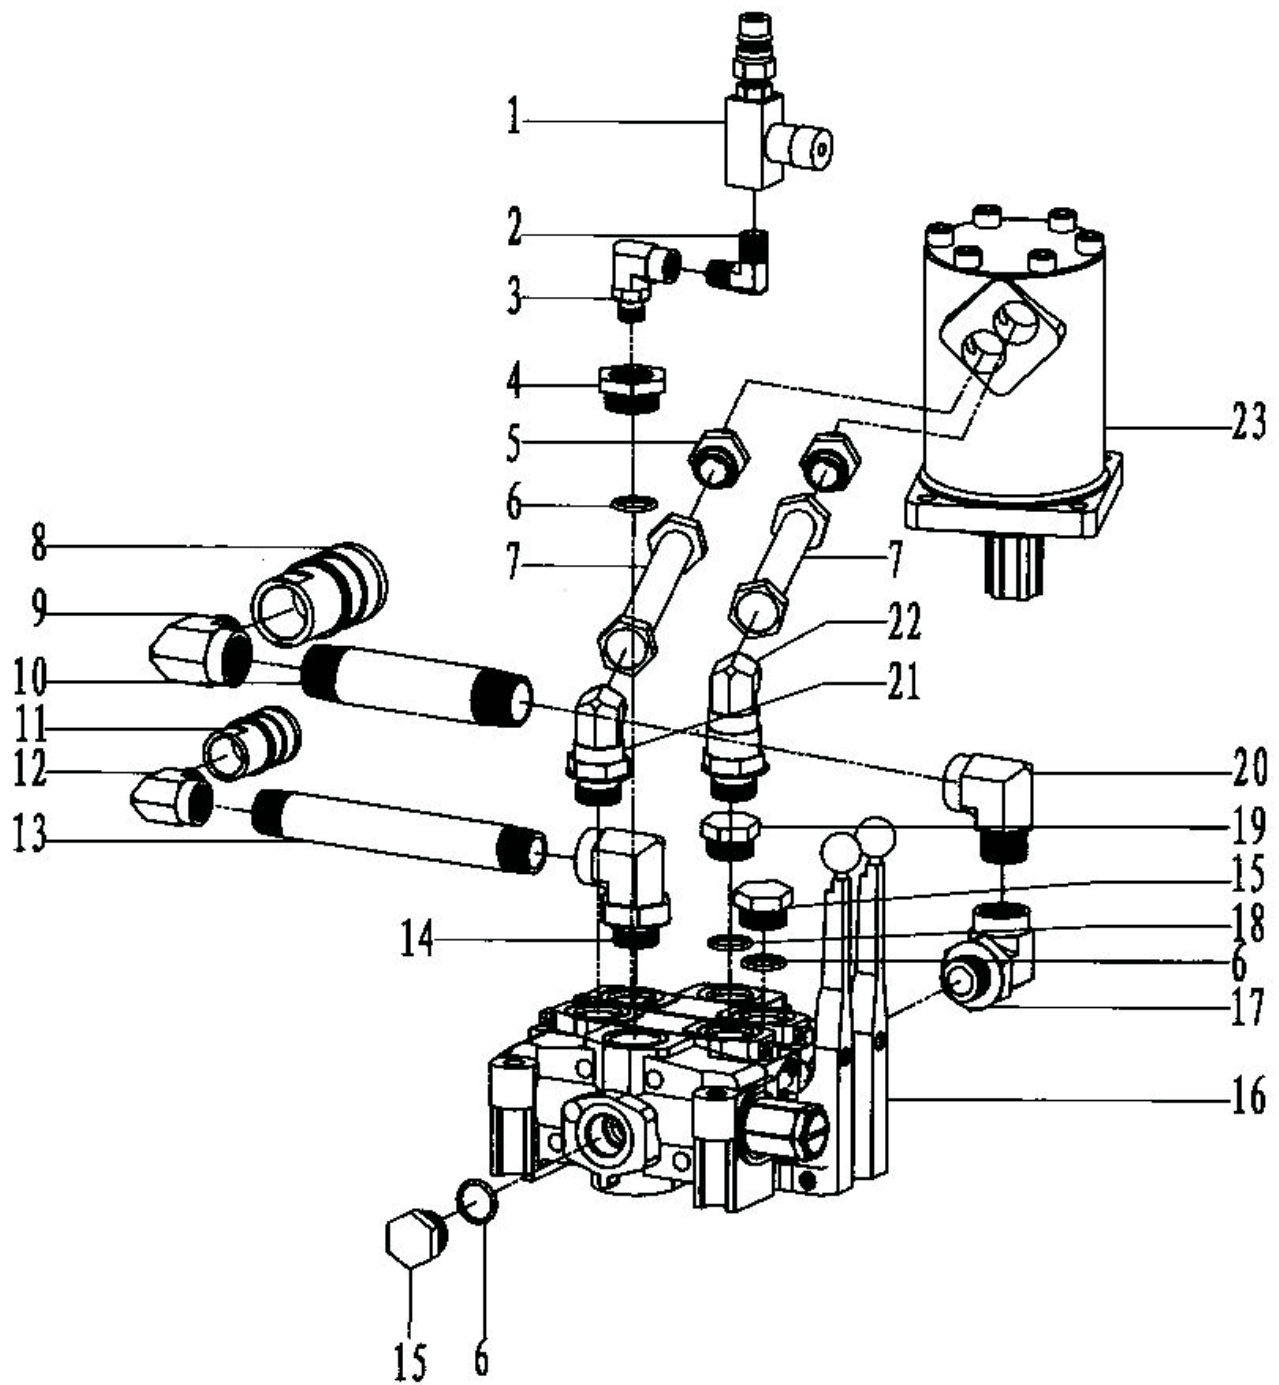

Fig 26
7. 20 Hydraulic valve bank assembly (tube type motor) (Fig 26, Table 20)